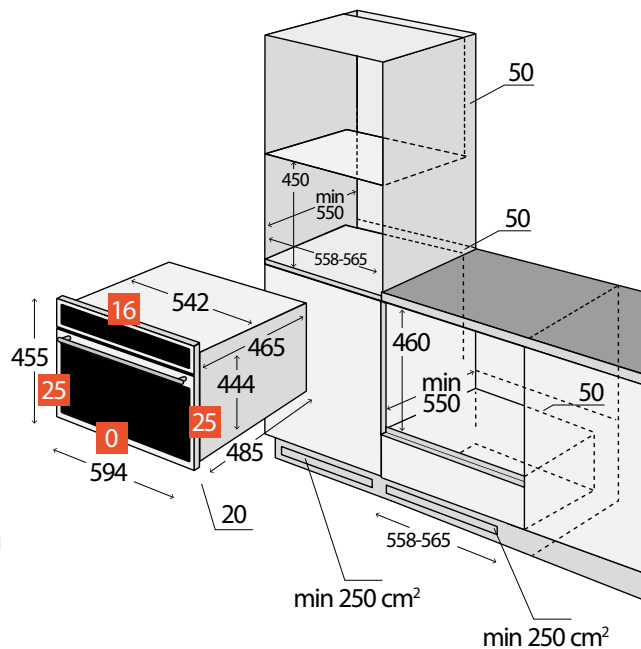

Fig. 1
- The appliance is installed in standardized kitchen furniture designed for built-in appliances or in properly adapted furniture of dimensions according to Fig. 1.
- The appliance can be installed under the worktop, as well as in the cabinet (Fig. 1).
2. The required dimensions of the cabinet for the installation are shown in Fig. 1. Due to effective air circulation the appliance must be located according to the dimensions shown in pictures and the cabinet must be designed that the air can circulate freely into the bottom part of the appliance. There must be at least 50 mm gap behind the rear wall of the appliance when it is the appliance installed.